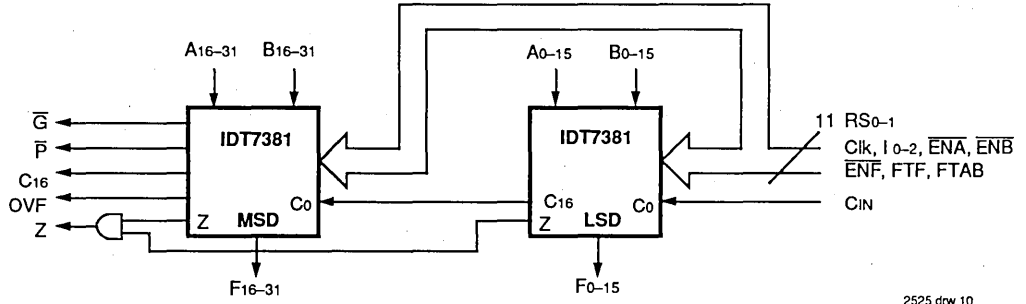
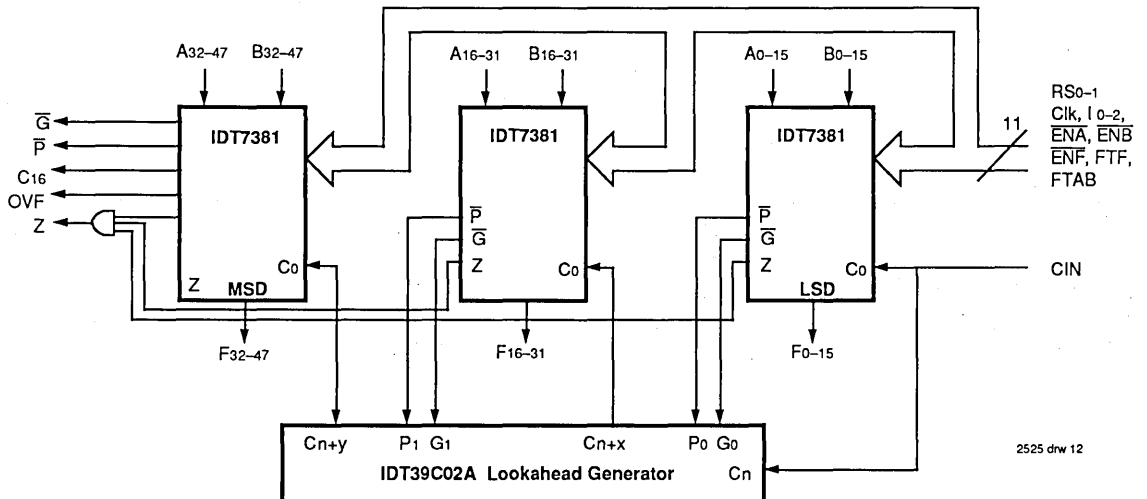

Figure 2. Cascading Two IDT7381s to 32 Bits
Figure 4. Cascading Three IDT7381s to 48 Bits Wide with a Carry-lookahead Generator
a) Cascading the IDT7381 without a carry-look-ahead generator: (Figures 2 and 3)
4. The system's zero flag (Z) is obtained by ANDing all zero flag results.
b) Cascading three or more IDT7381s with carry-look-ahead (CLA) generator: (Figure 4)